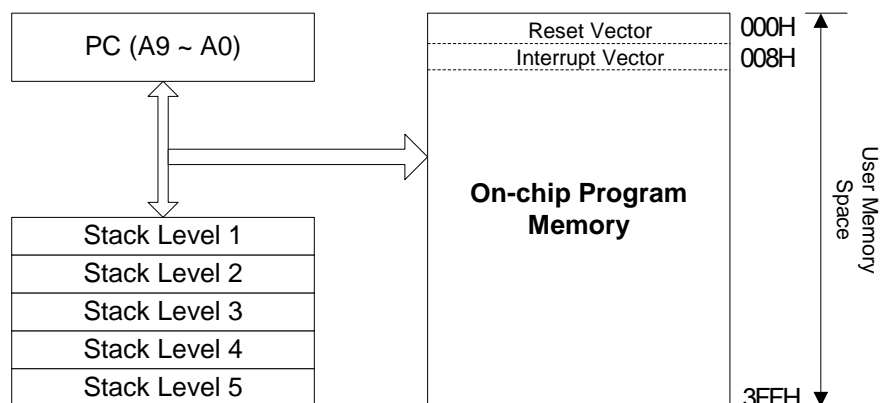

Fig. 4-2 R2 (Program Counter) & Stack Organization
- Depending on the device type, R2 and hardware stack are 10-bits wide. The R2 structure is depicted in Fig. 4-2 below.